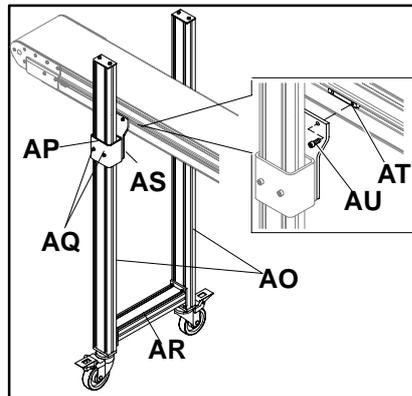

Figure 15: Fully Adjustable Aluminum Stand and Adapting Components for an LPZ Conveyor
Fully Adjustable Aluminum Support Stands (Figure 15)
This stand style is composed of two slotted aluminum vertical supports (AO of Figure 15) and two adjustable steel conveyor mounting assemblies (AP). Both adjustable assemblies can be slid up or down their respective vertical supports. The adjusted